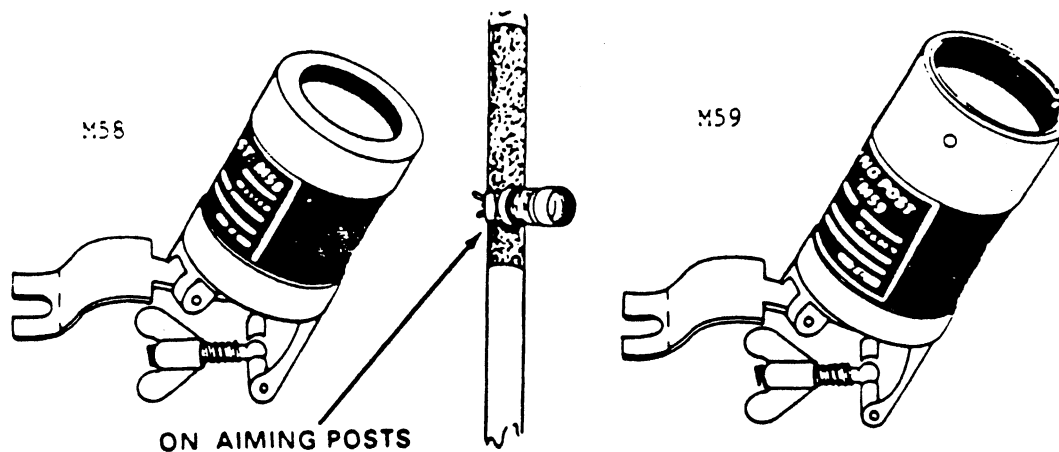

Fig 1-12. M58 and M59 aiming post lights.
g. Night firing devices (fig 1-12); the night firing devices consist of the M58 and M59 aiming post lights and are attached to the aiming posts so they can be seen at night through the sight. The near post must have a different color light than that of the far post. Aiming post lights come in a set of three--two green (M58) and one orange (M59). There is no provision for front and rear lights. An extra light is issued in case one of the other lights burns out. These lights may begin to fade after about 6 years of use. Each light has a clamp, tightened with a wingnut, for attachment to the aiming post. There is no cover to protect the light when not in use. The light does not need batteries.